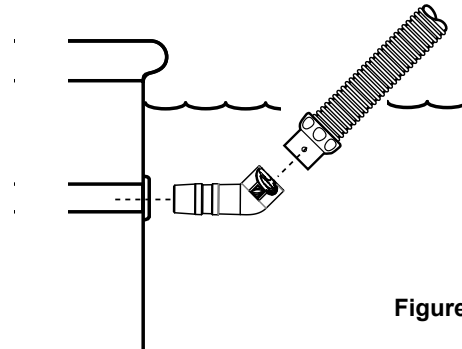

Figure 4
3. Angle the elbow upward towards the water surface (Figure 4).